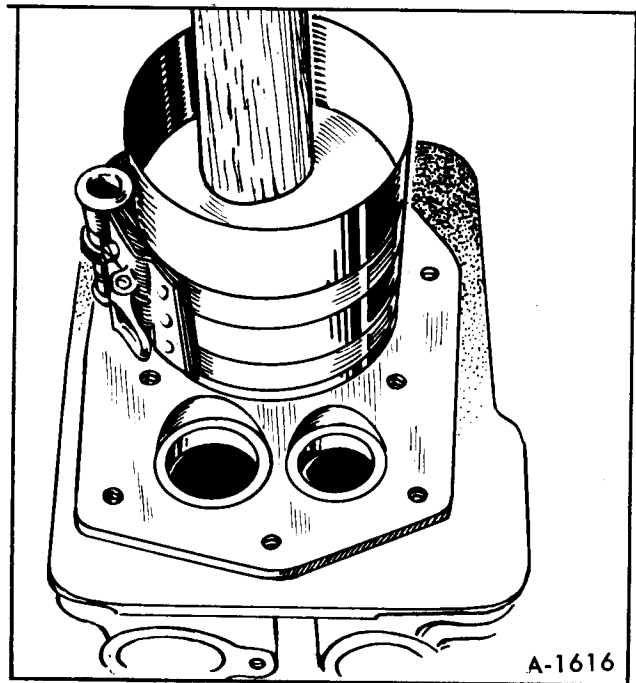

Figure 27—Installing Piston
2. Lubricate the number one piston assembly and inside of the cylinder. Compress the rings with a ring compressor as shown in Figure 27.
4. Tap the piston down into the bore with the handle end of a hammer until the connecting rod is seated on the journal (figure 27). Install the bearing cap on the rod with the witness marks and stamped reference numbers matching the marks on the rod. Install and tighten the bolts to the specified torques.